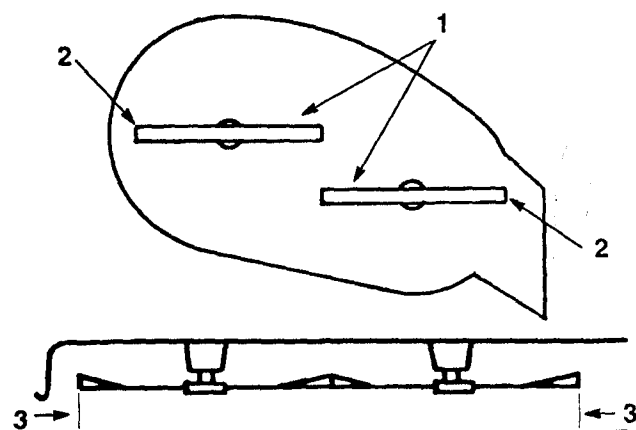

Figure 48
4. Carefully rotate blade(s) side to side (Fig. 48). Measure between the outside cutting edges and the flat surface (Fig. 48). If both measurements are not within $\frac{3}{16}$ " (4.762mm), an adjustment is required; refer to steps 5 and 6.